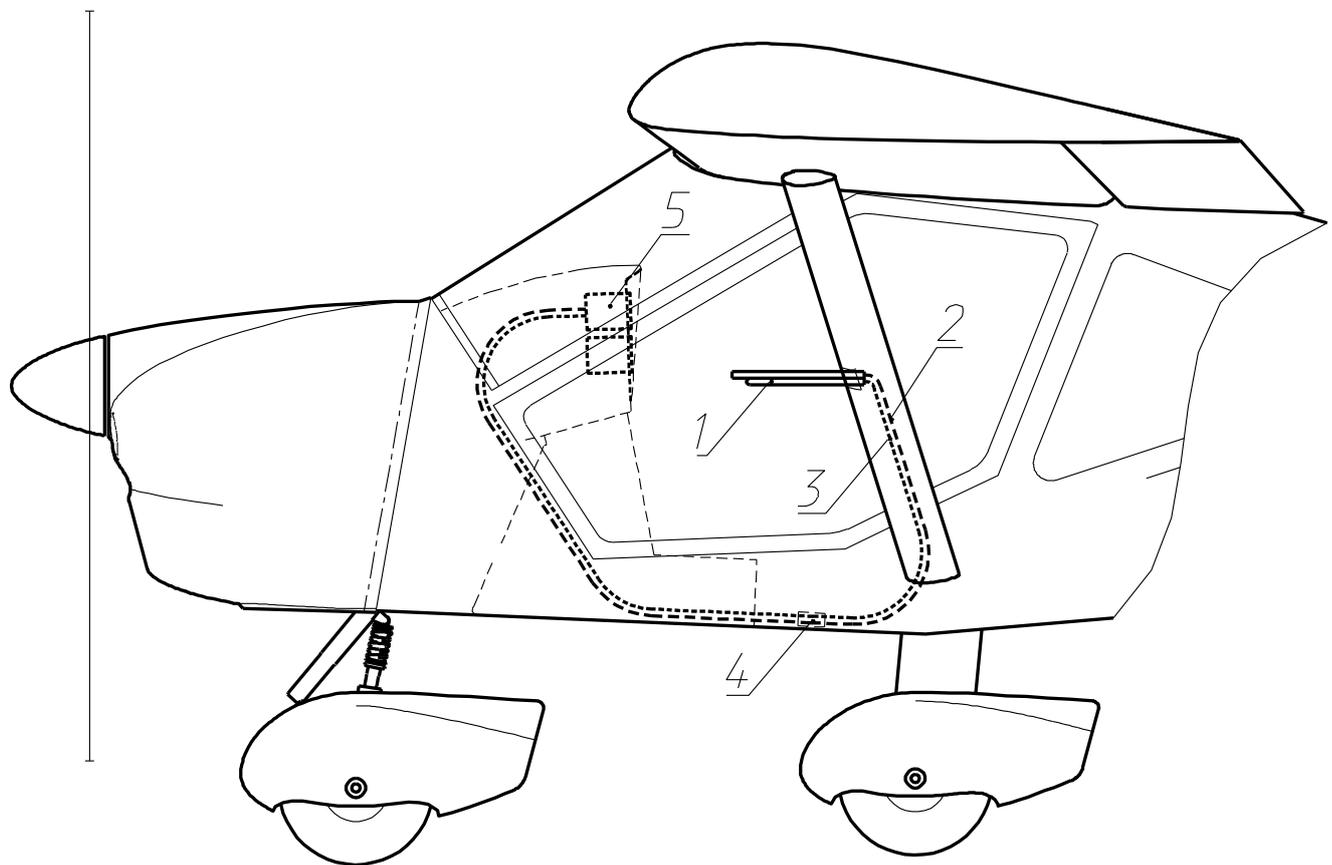

Fig. 14. Full and static pressure system
This system supplies the full (dynamic) and static pressure of the outside air to the instruments measuring the flight parameters: airspeed, rate of climb and altitude. The system consists of the full and static pressure probe (1) and full (2) and static (3) pressure lines connecting the probe to the instruments (see **Fig. 14**). Full and static pressure lines have joints (4) used to disconnect the lines when the left wing is removed during aircraft disassembly.
4. Disconnect the full and static pressure lines at their joints (4, see **Fig.14** at page **40**).